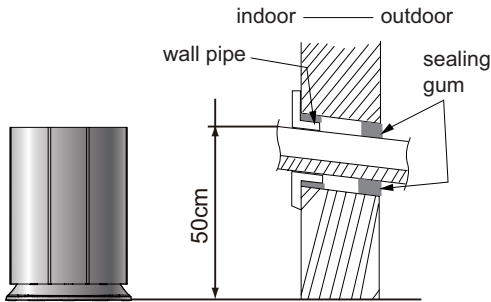

Fig.24
1. Confirm the position of pipe hole and drill a hole inclined to outside.(As show in Fig.24)